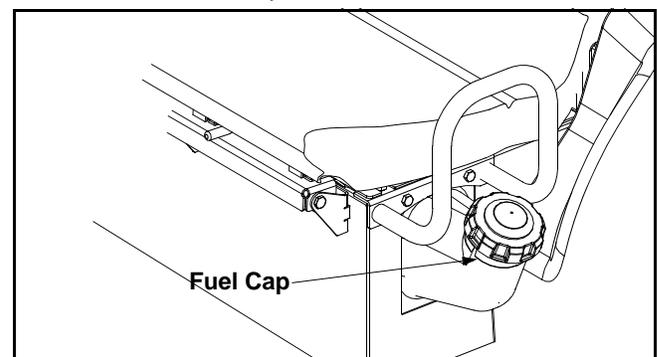

Figure 14
- Clean area around fuel cap and remove cap. See Figure 14.